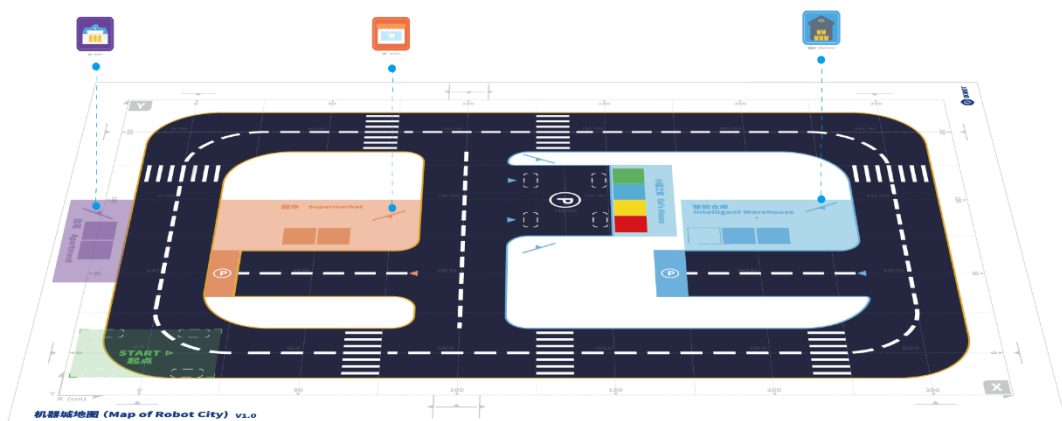
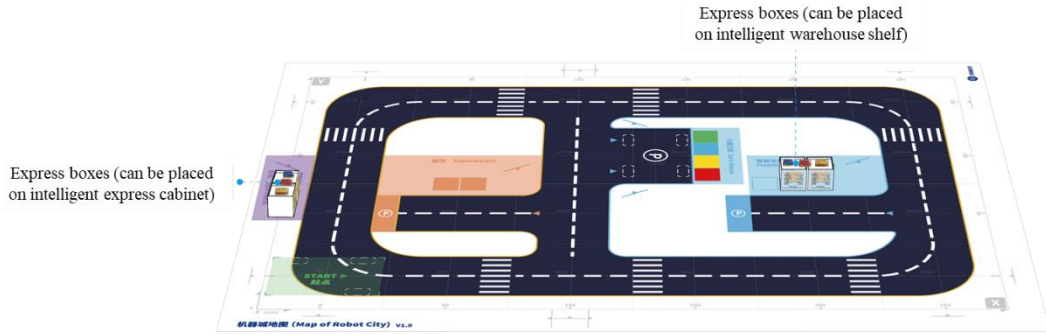

Figure 5.5 Position of area sign
Figure 5.7 Position of express boxes
The area signs are shown in Table 5.3. They must be placed according to Figure 5.5.
- Express boxes include international express, domestic express and Intra-city express, as shown in Figure 5.5. When simulating express delivery, please place the express according to the suggested position in Figure 5.7, and ensure that the express box is placed on the intelligent warehouse shelf or intelligent express cabinet.